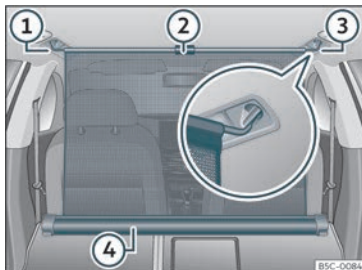

Fig. 134 In the luggage compartment: net partition hooked in place with the rear seat backs folded down.
- Pull up handle»» **Fig. 134** ② to remove the net from the casing»» **Fig. 134** ④.
- Hook in the net partition on the right or left side»» **Fig. 134** ③ (magnified image).
- Hook in the net partition into the housing on the other side»» **Fig. 134** ① by pulling the rod.
The net partition is properly assembled when the T-shaped ends are firmly secured in the corresponding housings»» **Fig. 134** ③ and ①.
- Roll up the net into the casing»» **Fig. 134** ④ lowering it with your hand. »»